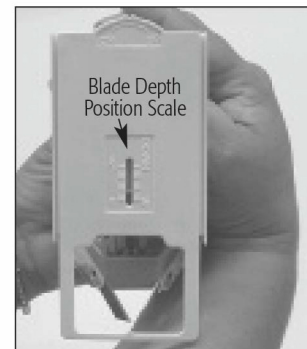

Fig. 5
- 2 On bottom of cutter, the **Blade Depth Position Scale** provides a rough guide to the blade depth position (**Fig. 5**).